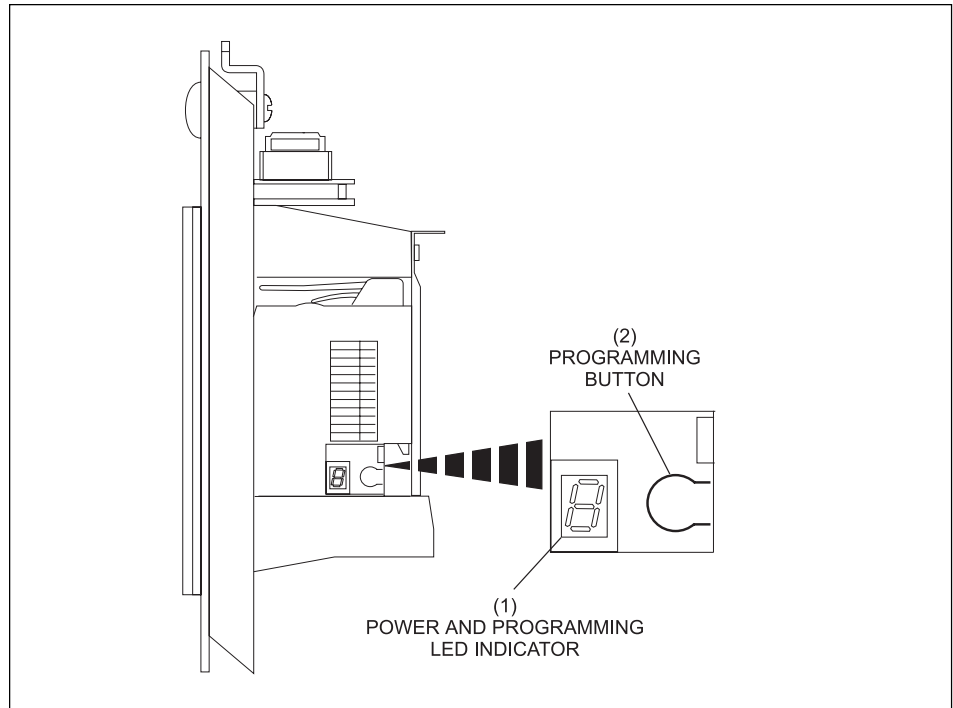

Figure 23. Coin Mechanism
1. Press Programming Button: one (1) time. LED will flash (Green).
2. Insert Coin. Done when LED changes to solid (Green). Refer to *Figure 23*.
1. Press Programming Button: two (2) time. LED will flash (Red).
1. Press Programming Button: three (3) times. LED will flash (Amber).
4. Press Programming Button: one (1) time. LED changes to solid (Amber).
6. To escape press Programming Button, and hold for 2 seconds. Refer to *Figure 23*.